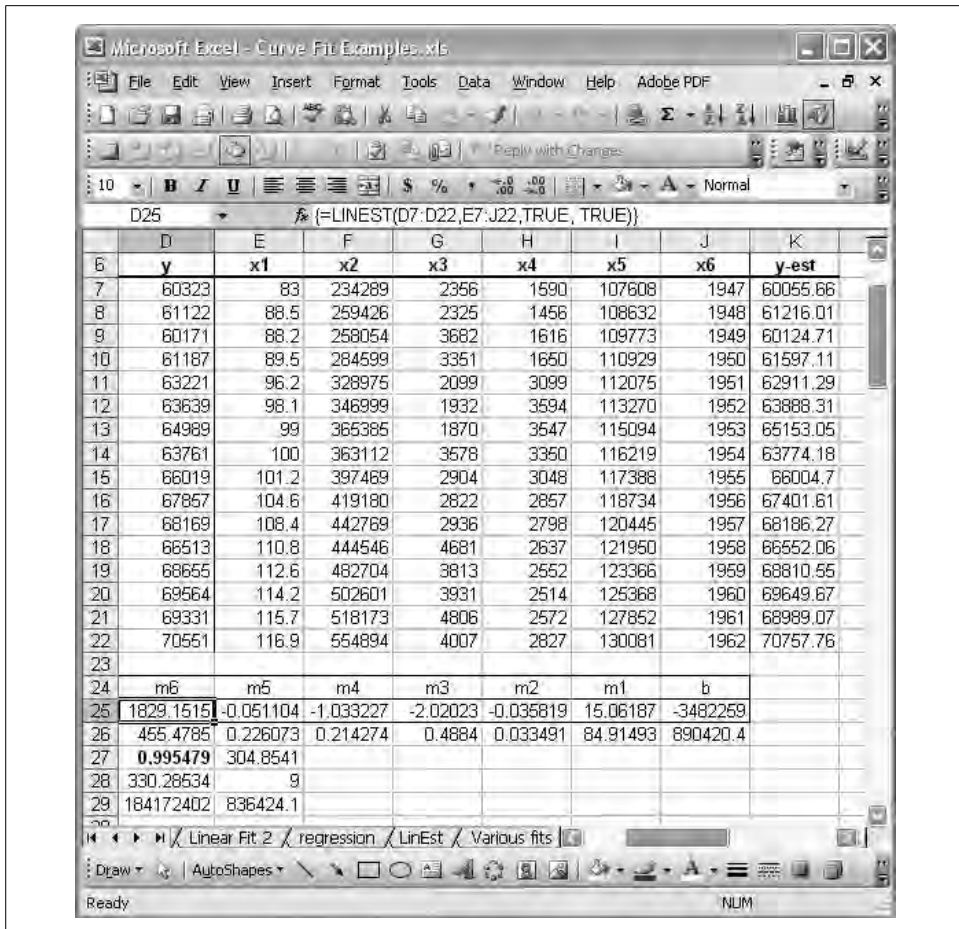
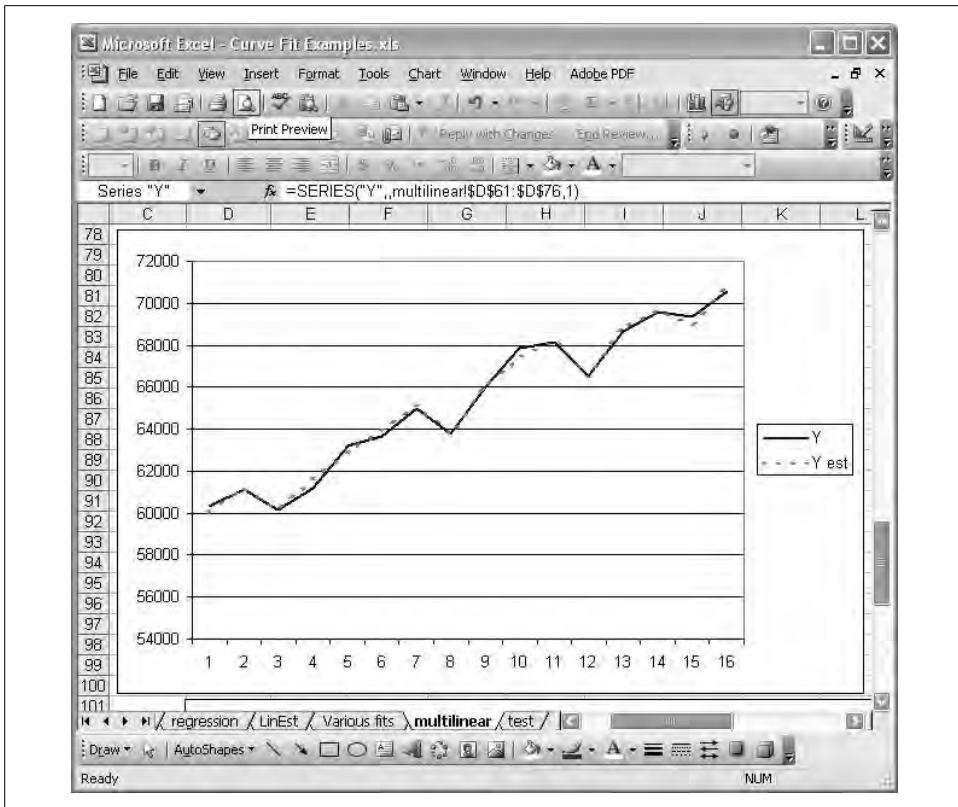

Figure 8-8. Multiple linear regression using LinEst
Figure 8-9. *Y and Y-estimated*
Let's consider a standard benchmark dataset. I downloaded the data shown in Figure 8-8 from the NIST web site (<http://www.nist.gov>).^{*} The data represents labor statistics where the dependent variable, y , is the Total Derived Employment and the independent variables are GNP Implicit Price Deflator with Year 1954 = 100, Gross National Product, Unemployment, Size of Armed Forces, Non-Institutional Population over Age 14, and Year, corresponding to the variables x_1 , x_2 , x_3 , x_4 , x_5 , and x_6 , respectively.
2. Type the LINEST formula using the syntax shown in the formula bar in Figure 8-8.
The results are shown in Figure 8-8. I labeled the model parameters for clarity. Notice the R-square value shown in bold in Figure 8-8. A value of 0.995 represents a very good fit and agrees very well with the results published by the NIST for this dataset.
I also calculated the estimated y-values as shown in column K (Figure 8-8). Figure 8-9 shows a chart of the estimated y-value along with the actual y-value. Visually, the fit very reasonably approximates the underlying data.